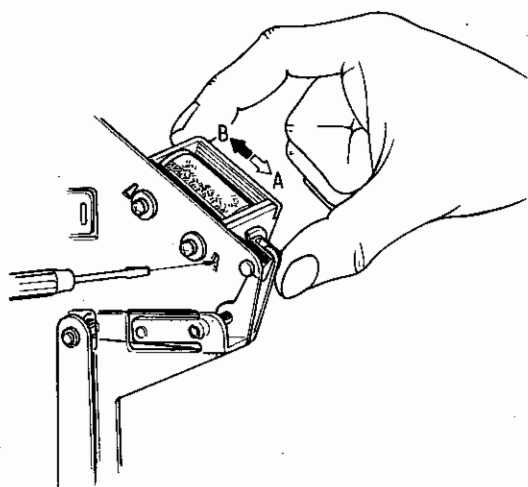

Fig. 5.10
- (1) Remove the mechanism ass'y referring to the item 3.3, mechanism ass'y removal procedure. See Fig. 5.10.
- (2) Loosen the screw a little and move the solenoid in the A direction.
- (3) Depress the play button.
- (4) Holding the solenoid as shown in the figure, slide the solenoid gradually by a flat screw driver in the B direction.
- (5) Then play button will release. Move the solenoid approximately 0.1 to 0.3mm from the released point in the B direction. Fasten the solenoid.
- (6) Assemble the mechanism ass'y and turn the power switch on. And check to insure whether the solenoid can be released at the Play, FF, REW and Pause modes.